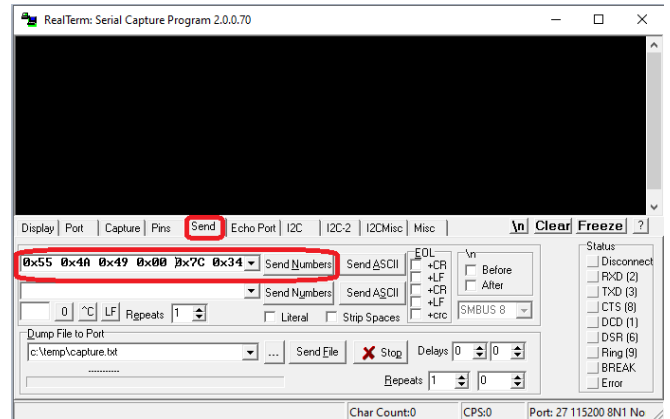

Figure 8. Sending the Jump to Bootloader Command
- Issue the Jump to Bootloader command (0x4A49) as shown in Figure 8 sending: